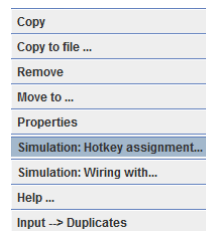

Fig. 35-6
- Select the "Simulation: Shortcut button assignment..." function. (Fig. 35-6)